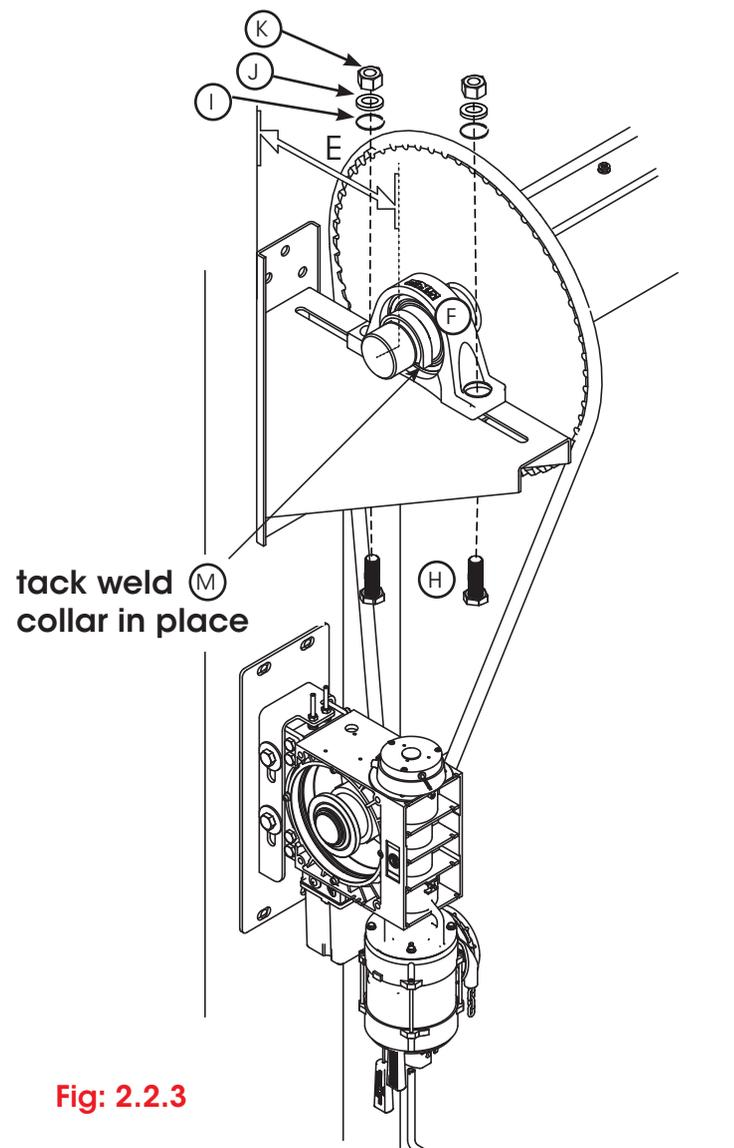

Fig: 2.2.3
- Before lowering onto the brackets slide the small chain sprocket, bearings (F) and safety brake (E) onto the ends, make sure they are correctly orientated.
- Fit the opener plate and opener as shown in Fig 2.2.3 using suitable fasteners as per **1.2 substrate fastener recommendations**.
- Position the drum onto the brackets as per fig 2.2.3 and 2.2.4 using measurement E from the dimension table, when satisfied the shaft collars (M) can be tack welded in place.
- Secure bearing and safety brake in place with Hex Head Bolts (H), spring washers (L), flat washers (K) and M22 nuts (I) as shown. Tighten the nuts on the bearings evenly to a torque of 40Nm or 30 ft.lb.